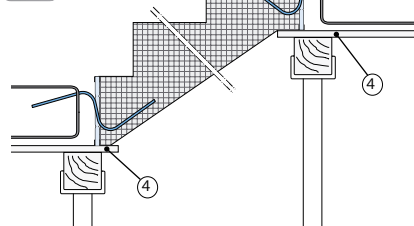

Figure 3: On-site installation of the precast stair element
- ▶ installation according to figure 3
► Figure 3 shows the installed HTF Impact sound insulation unit. Adhesive tape on the back of the unit fixes and secures the insulation element to the landing slab on assembly.